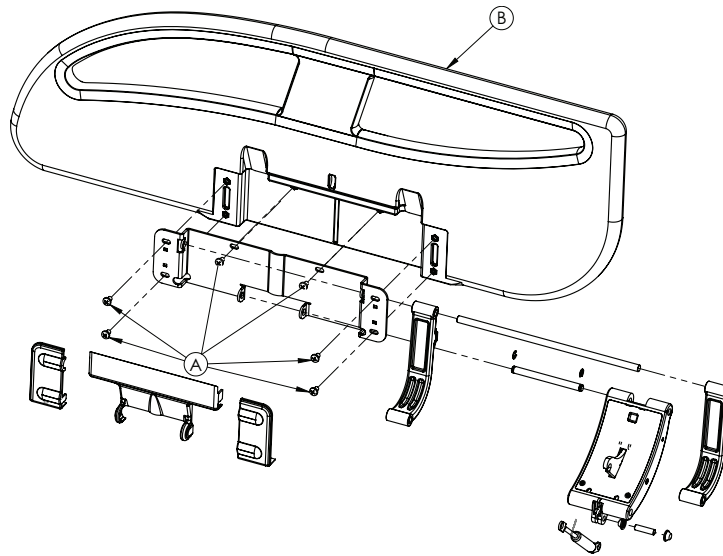

Figure 15 – Head end siderail hoop
12. Using a #2 Phillips screwdriver, remove and discard the six screws (A) that secure the siderail hoop (B) to the siderail mechanism (Figure 15).
8. Using a #2 Phillips screwdriver, remove and discard the six screws (A) that secure the siderail hoop (B) to the siderail mechanism (Figure 15).